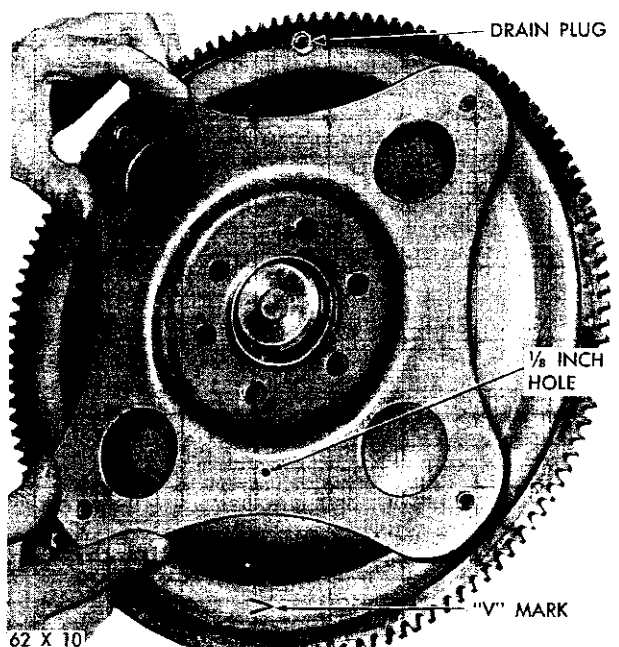

Fig. 46—Converter and Drive Plate Markings
(1) Inspect the converter drive plate for distortion or cracks and replace if necessary.
(2) Coat the converter hub hole in the crankshaft with wheel bearing lubricant. Place the transmission and converter assembly on a service jack and position the assembly under the vehicle for installation. Raise or tilt as necessary until the transmission is aligned with the engine.
(3) Rotate the converter so mark on converter (made during removal) will align with mark on drive plate. The offset holes in the plate are located next to the 1/8 inch hole in the inner circle of the plate. A stamped V mark identifies the offset hole in the converter front cover (Fig. 46). Carefully work the